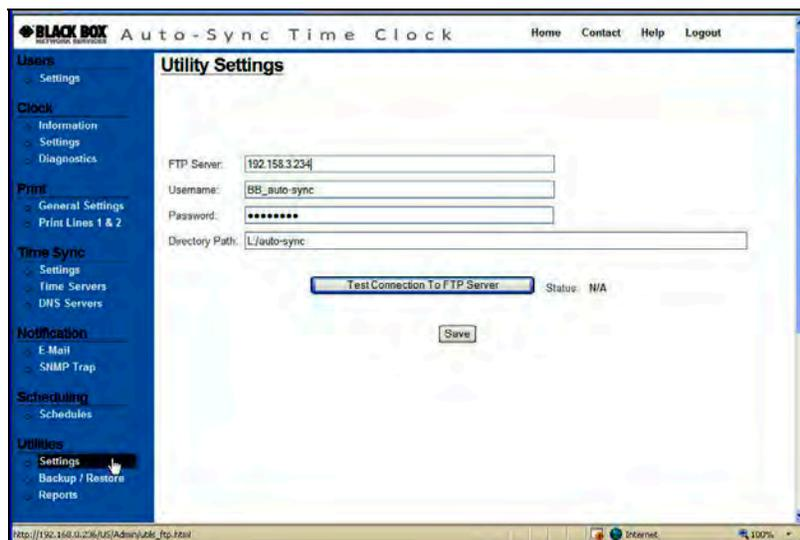

Figure 4-22. Utility Settings (FTP Server).
1. Click on the **Settings** link under Utilities and the **Utility Settings** screen for FTP will appear (see *Figure 4-22*).
4. Click on the **Run Backup** button to perform the Backup and the status will appear once the operation has been completed. The transaction file will be stored at the same location (path) previously entered for the FTP Server (see *Figure 4-22*). The configuration file will also be stored in the same location but in a binary format with a filename which correlates to the clock and ending in "**_ATVSConfig.bin**".